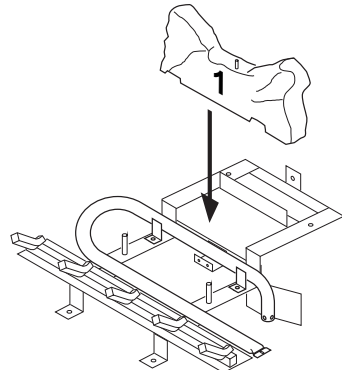

Figure 45 - Installing Log No. 1
1. Place log #1 (rear log) on top of grate. Make sure the notches in the bottom of the log fit over the grate (see Figure 45).